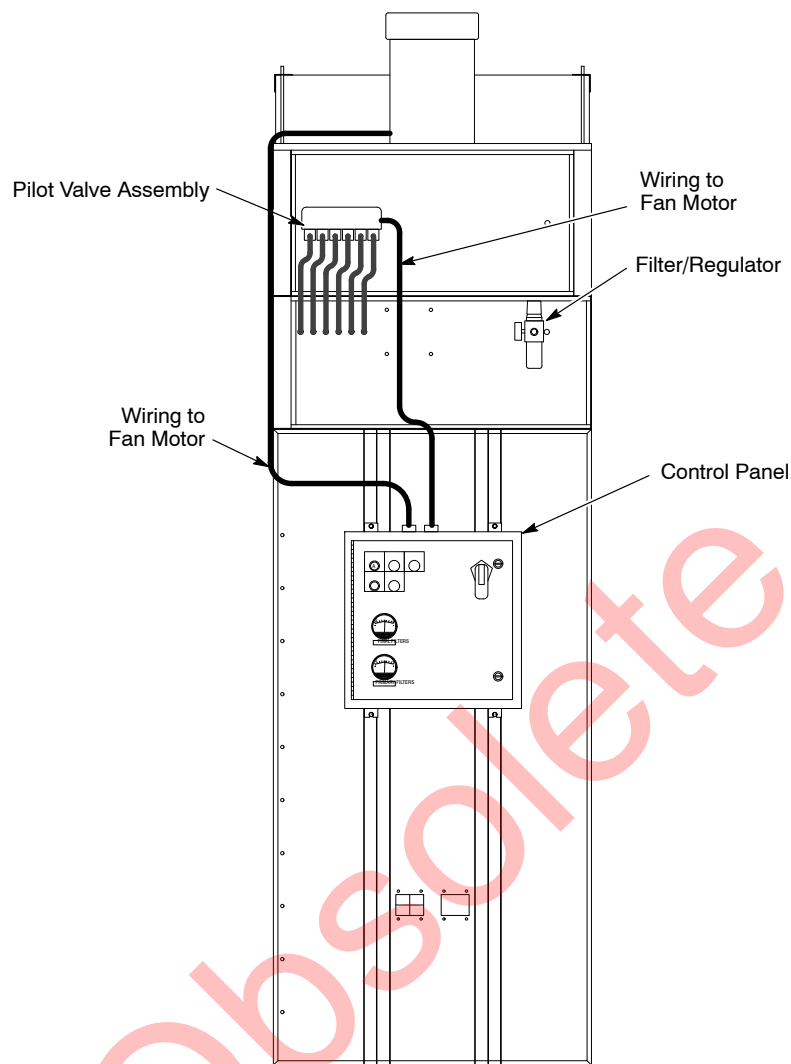

Figure 3 Control Panel, Pilot Valve Assembly, and Filter/Regulator Installation (Left-Hand Orientation Shown)
7. See Figure 3. Mount the control panel, pilot valve assembly, and regulator on the appropriate side of the collector module.
See Figure 3. Connect the compressed air supply to the filter/regulator.